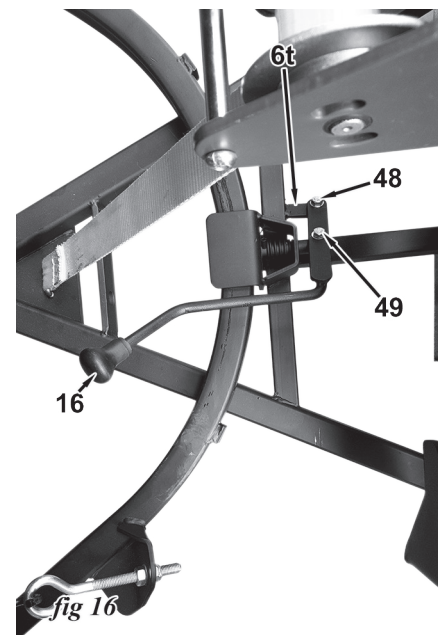

fig.16
15. Tighten the Nylock nuts to the point where the springs are just tight. Then turn the Nylock nut, shortening the take-up by 6 mm (1/4 inch) further so the springs open slightly. Snug up the inner M12 nut to hold the assembly tight. Assemble the blade angle locking handle with knob to the A frame so that it operates the spring-loaded angle lock pin in the bracket on top of the A frame smoothly. Bolt the end of the handle opposite the knob (16, fig.16) to the eye in the small tab in the A frame's centre cross piece (6t, fig.16) with an M8 x 25 mm gr.8 bolt (48, fig.16) and 2 x 8 mm washers. Secure with an 8 mm Nylock nut. Bolt the handle to the hole in the angle lock pin with an M8 x 35 mm gr.8 bolt (49, fig.16) and 2 x 8 mm washers. Secure with an 8 mm Nylock nut.